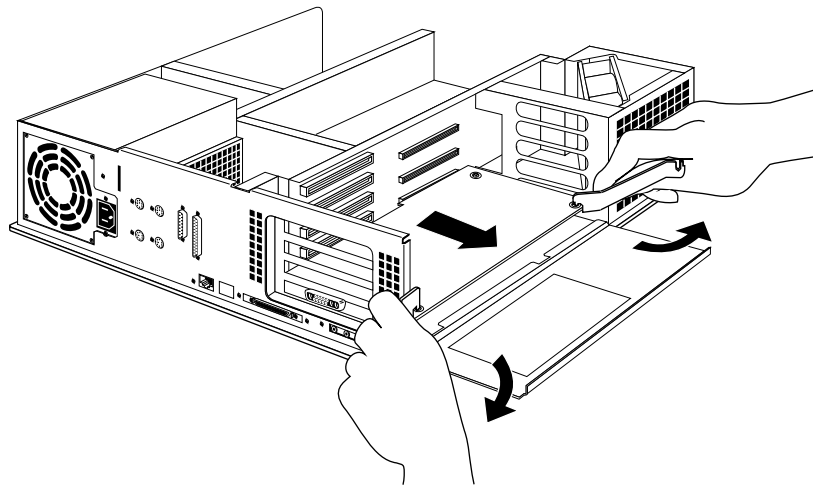

Figure 8-11 Removing the XL Board From the Chassis
- Hook the ends of the wrenches in the small holes on each side of the front of the board, as shown in Figure 8-11.